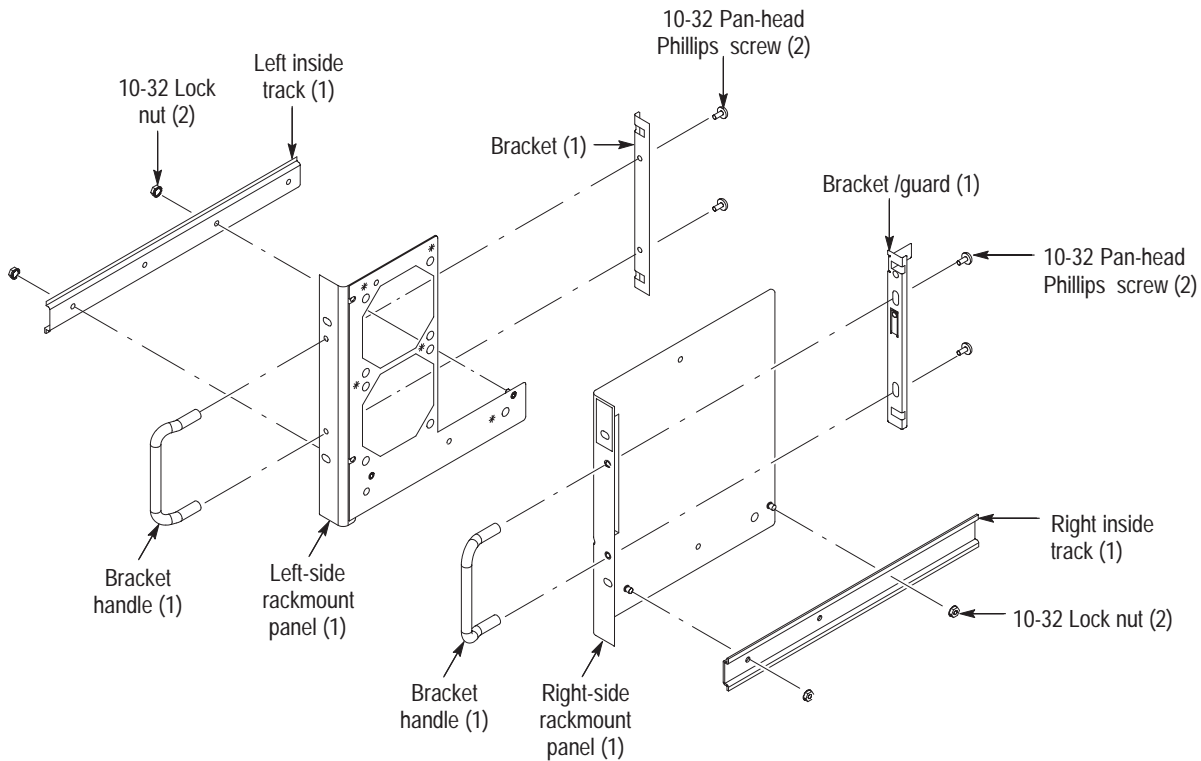

Figure 6: Rackmount panel preassembly
NOTE. *Preassemble all subparts on the right and left-side panels before installing the rackmount panels on the instrument. Refer to Figure 6.*
2. Install the bracket handle and bracket/guard to the right-side rackmount panel. Secure by using the two 10-32 pan-head, Phillips screws, applying 15 inch-lbs of torque. Refer to Figure 6 on page 13.